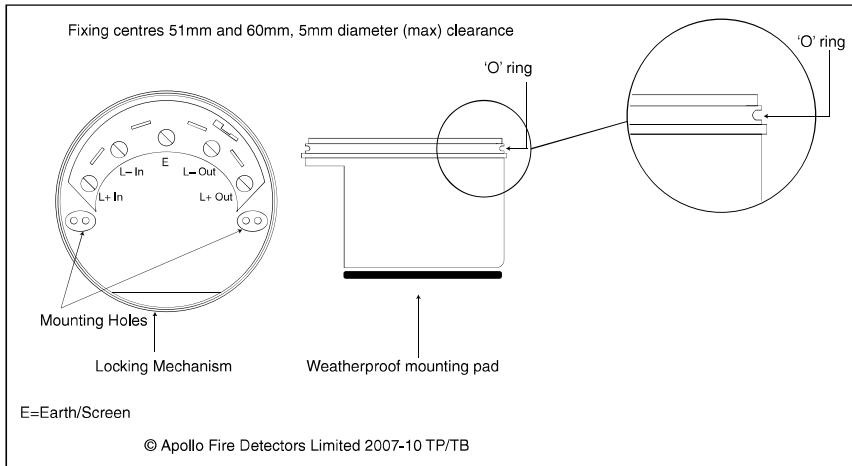

Fig. 4 Base diagram
2. Secure the base to the mounting surface with pan-head screws. If IP integrity is required, fit the weatherproof mounting pad between the base and the mounting surface. Fit the 'O' ring to the base (Fig. 4). Attach head to base using a lubricant such as silicone grease if required.
3. To lock the sounder in the base, snip the break-out on the base rim (location shown in Fig. 4). Fit the sounder to the base, using the above steps if IP integrity is required.